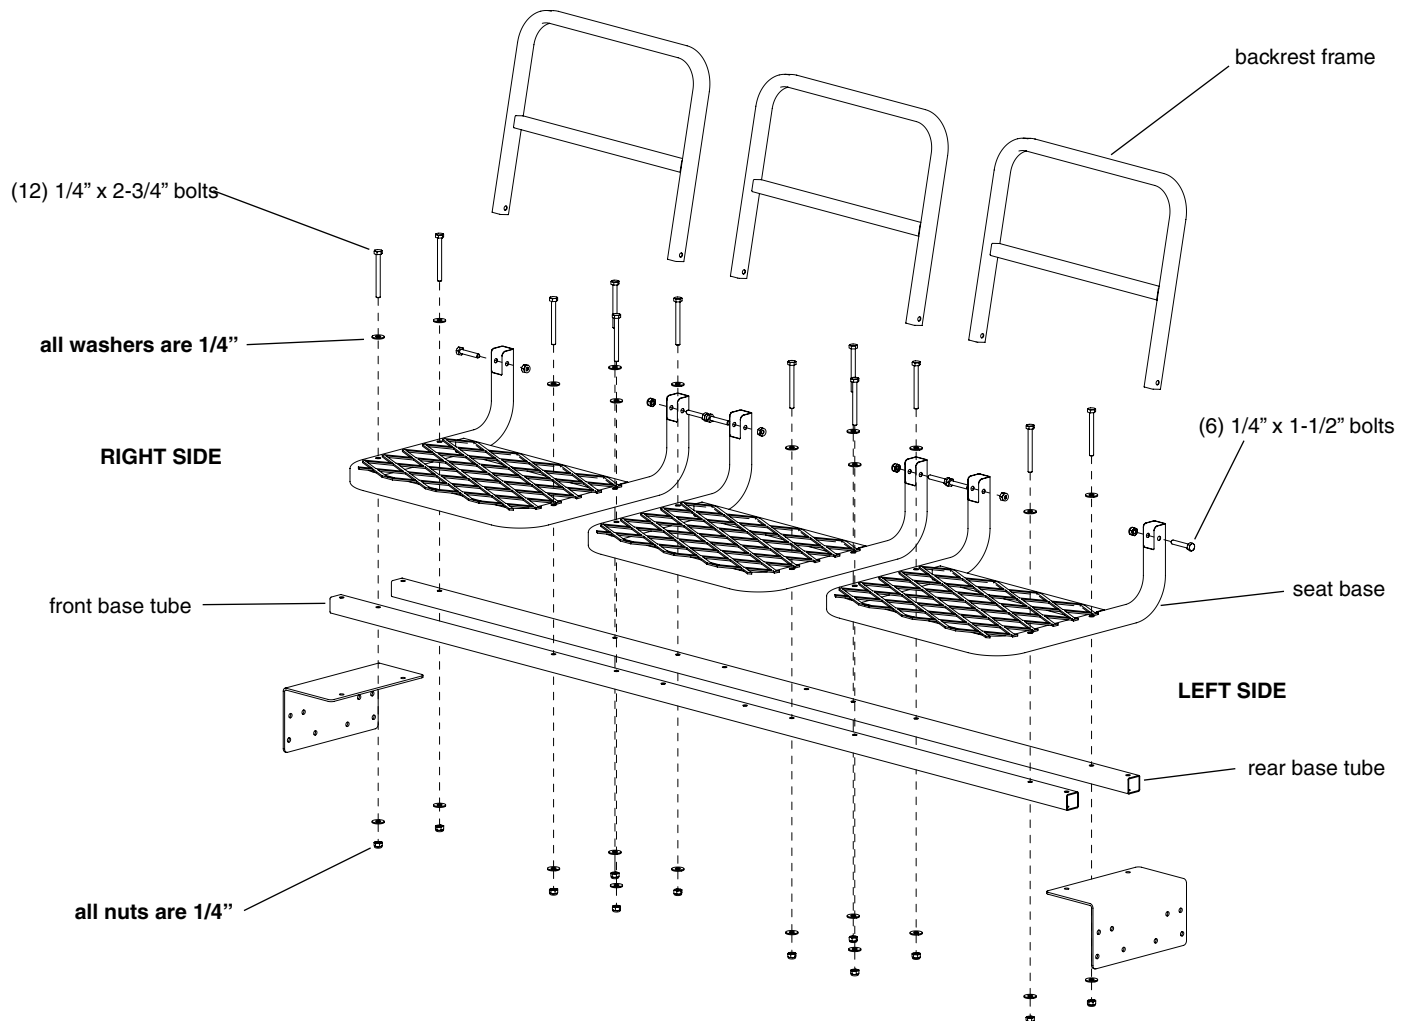

FIGURE 5B
4. Attach (3) seat bases to top of base tubes using (12) provided 1/4-20 x 2-3/4" bolts, nyloc nuts and (24) washers. **SEE FIGURE 5B.**
5. Attach backrest frame to each seat base using (6) provided 1/4-20 x 1-1/2" bolts and nyloc nuts. **SEE FIGURE 5B. You may now tighten all nut & bolt assemblies. Be sure not to over tighten or crush tubing when tightening!**
6. Attach (3) removable seat cushions (68162) to the top of seat bases and snap the side release buckles together. Pull straps tight so seat is not loose.
7. Attach (3) removable backrest cushions (68163) to the backrest frames and secure with Velcro.